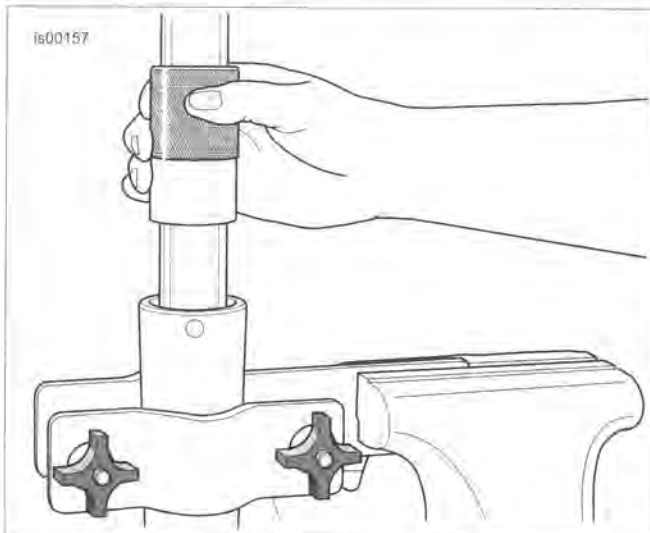

Figure 2-102. Install Fork Oil Seal
13. See Figure 2-102. Using tool as a slide hammer, drive oil seal down fork tube until retaining ring groove is visible in fork slider ID. Remove tool.